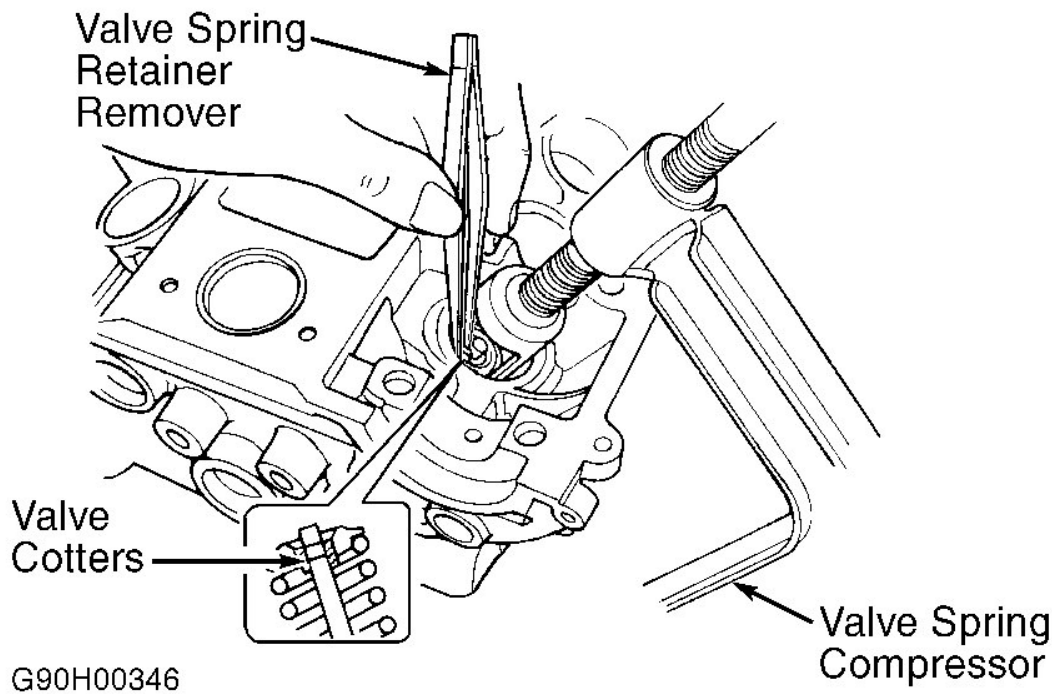

Fig. 14: Removing Valve Lock
2. Using Valve Spring Compressor (09916-14510) and Valve Lifter Attachment (09916-14910), compress valve spring. Using Valve Spring Retainer Remover (09916-84510), remove retainer locks. See **Fig. 14**. Remove retainers, springs, valve stem oil seals, spring seats and valves. Keep all components in order for reassembly reference.